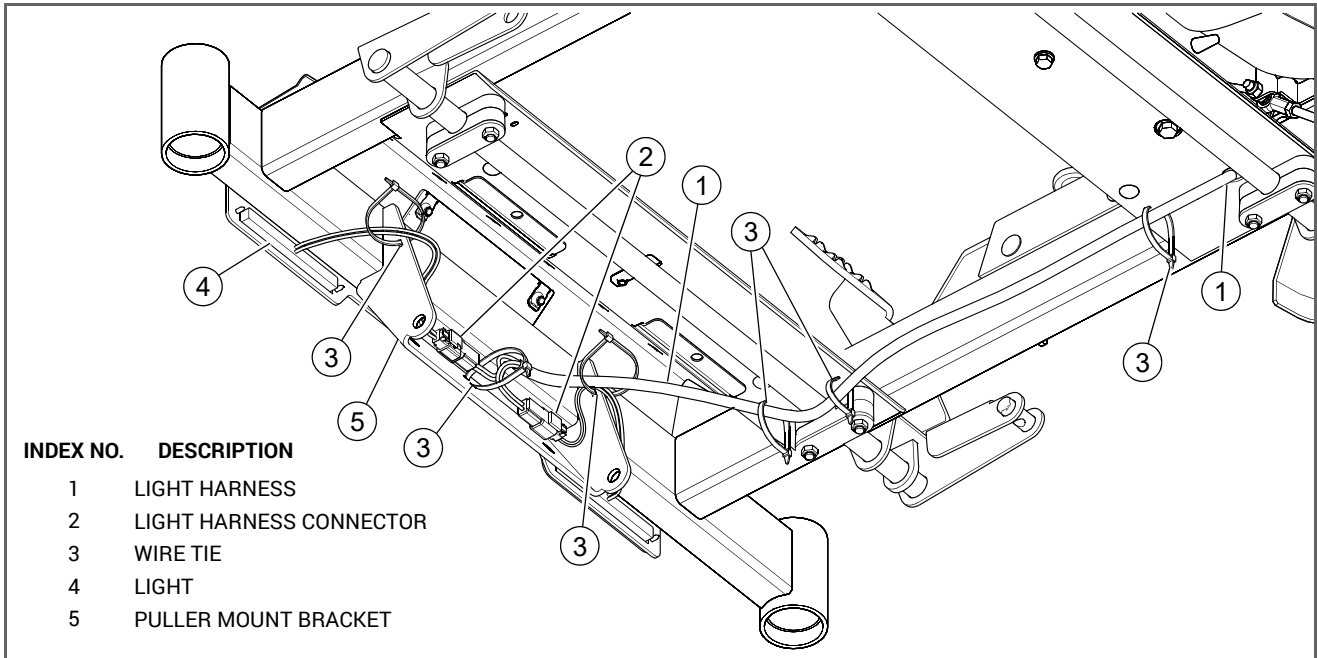

FIG. 4
6. Connect the lights to the light harness. Secure the light harness to the puller mount bracket with the wire ties. FIG. 4
7. Route and attach the light harness to the right side of the mower frame as shown. Do not tighten the wire ties. FIG. 4.